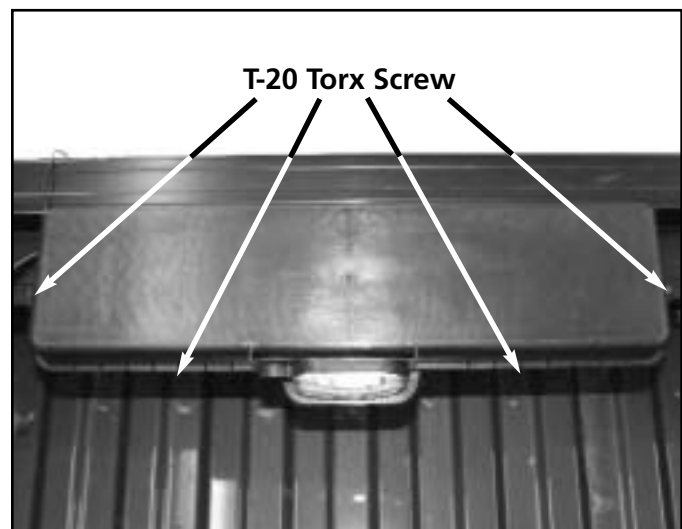

Figure S-51
4. Remove the four (4) T-20 Torx motor cover retaining screws. See figure S-51.
16. Position the motor cover over the rail and insert the four (4) motor cover retainer screws. Refer back to figure S-51.